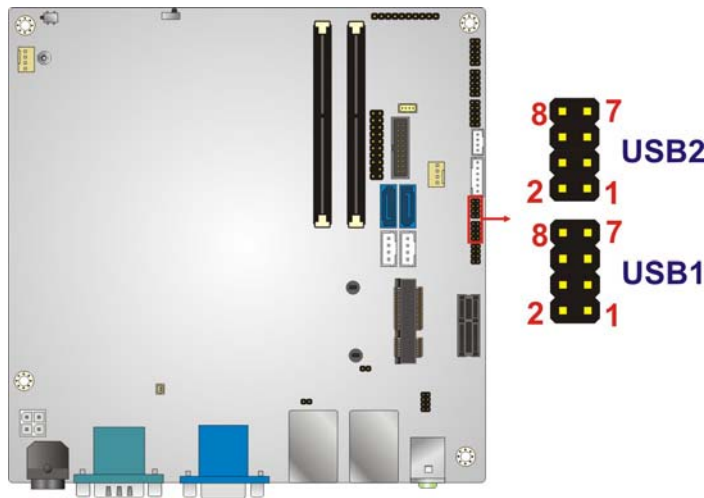

Figure 3-24: USB Connector Locations
- CN Location:** See **Figure 3-24**